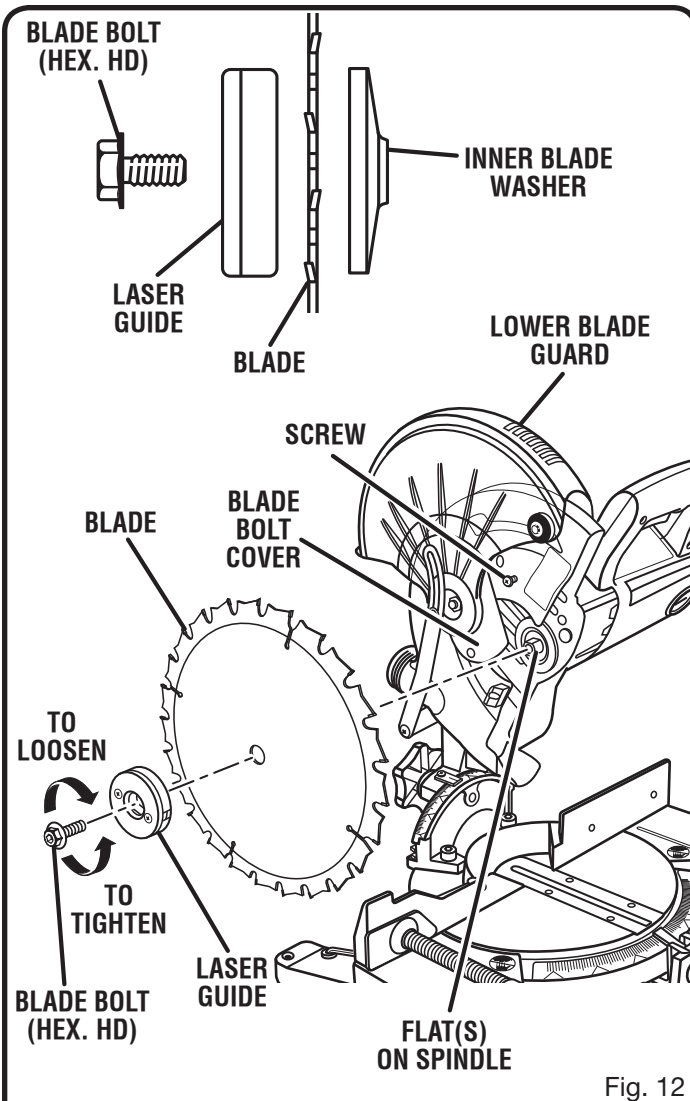

Fig. 12
- Fit saw blade inside lower blade guard and onto spindle. The blade teeth point downward at the front of saw as shown in figure 12.